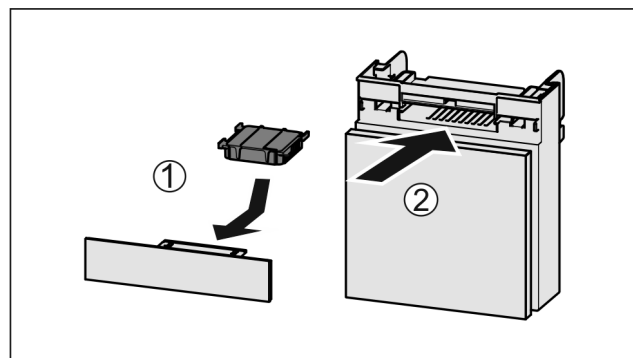

Fig. 89
- ▶ Insert the carbon filter as shown in the diagram Fig. 89 (1).
- ▶ Push the compartment in Fig. 89 (2).